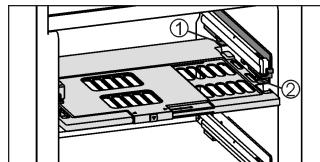

Fig. 11
- To insert the humidity control plate: Insert the guide pieces of the plate into the rear retainer Fig. 11 (1) from below, then snap the plate into the retainer Fig. 11 (2) in the front.